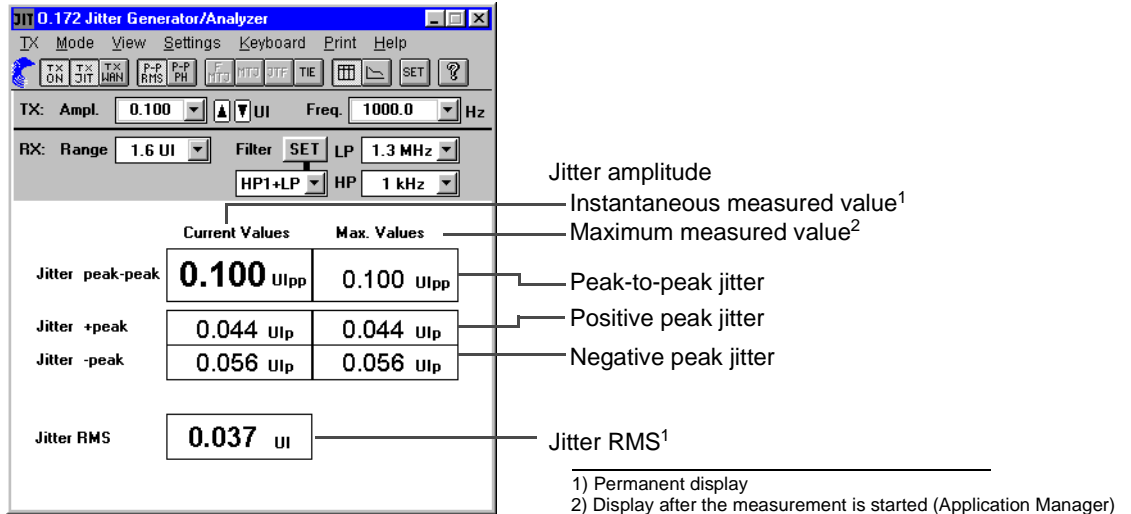

Fig. O-2 Result display for “non-automatic” measurements (numerical display)
- Current jitter values; numerical display (see Fig. O-2)